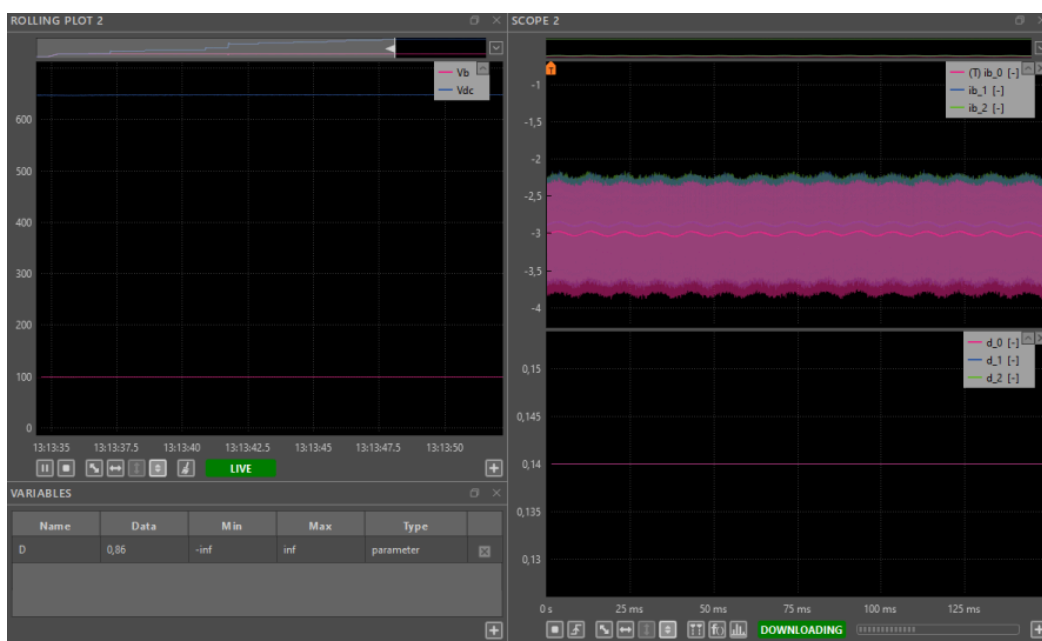

Figure 5. Cockpit workspace configuration and results of the experimental test.
6. Gradually increase D to 0.86. The steady state results under these conditions are shown in Fig. 5.